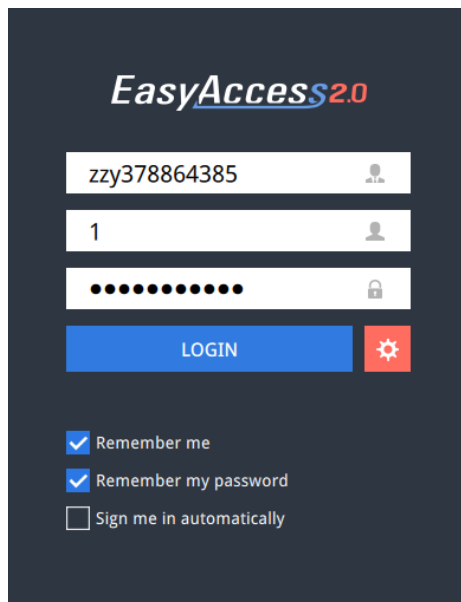

Figure 4-26 Login Page
Step 2: Login on EasyAccess 2.0 software on your PC, enter the Domain account name and password, the page shown in Figure 4-26.